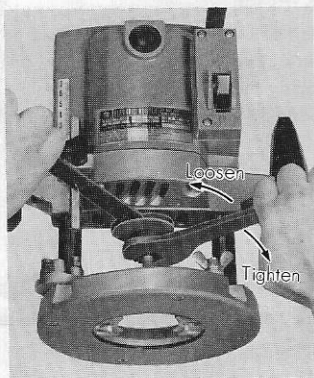

Fig. 4
- (1) After deeply inserting the bit into the collet chuck hole, tightly clamp the chuck with the provided wrench. (Fig. 4)
- (2) When employing bits with a shaft diameter of 1/4" or 3/8", use the provided chuck sleeve. After deeply inserting the sleeve into the collet chuck hole, insert the bit into the chuck sleeve and tightly clamp the chuck with the provided wrench.